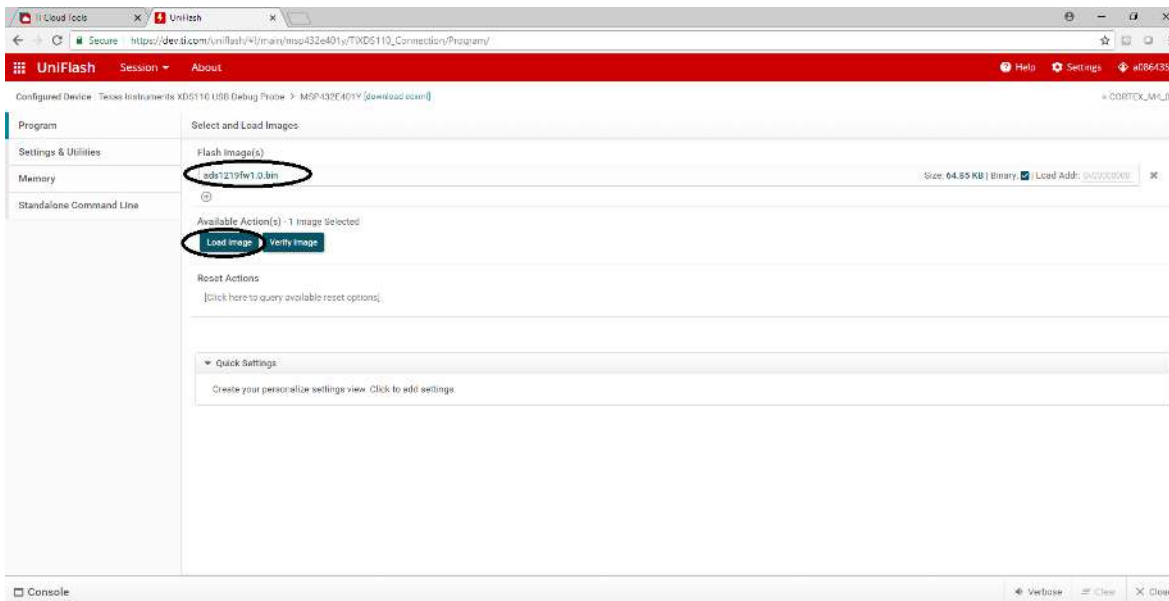

Figure 10. UniFlash: Load Image
- When the flash binary image file is located, press the *Load Image* button to start the firmware download, as shown in Figure 10.